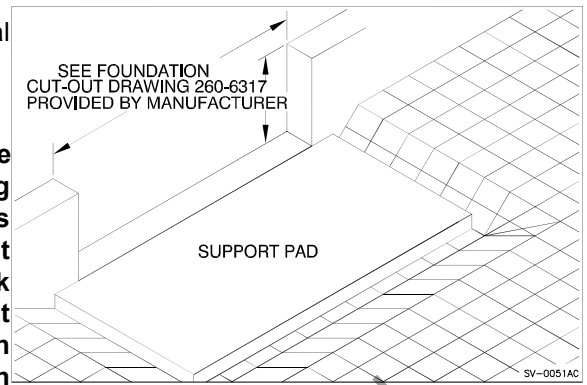

Figure 38: Foundation cut out and support pad
2. ___ Find the pre-determined floor level (See “Figure 38: Foundation cut out and support pad” on page 34) and ensure the foundation cut-out and support pad are in place to properly locate and support the dock leveler is appropriate according to the sizes shown on the dock leveler drawing provided by the Pentalift. For the dimensions of the foundation cut-out refer to Pentalift drawing 260-6317.